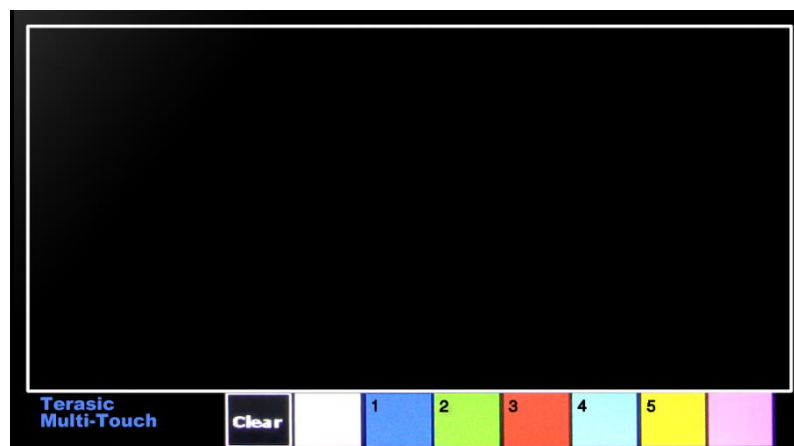

Figure 4-3 GUI of Painter Demo
- After Nios II program is downloaded and executed successfully, you will see a painter GUI in the LCD. **Figure 4-3** shows the GUI of the Painter Demo.